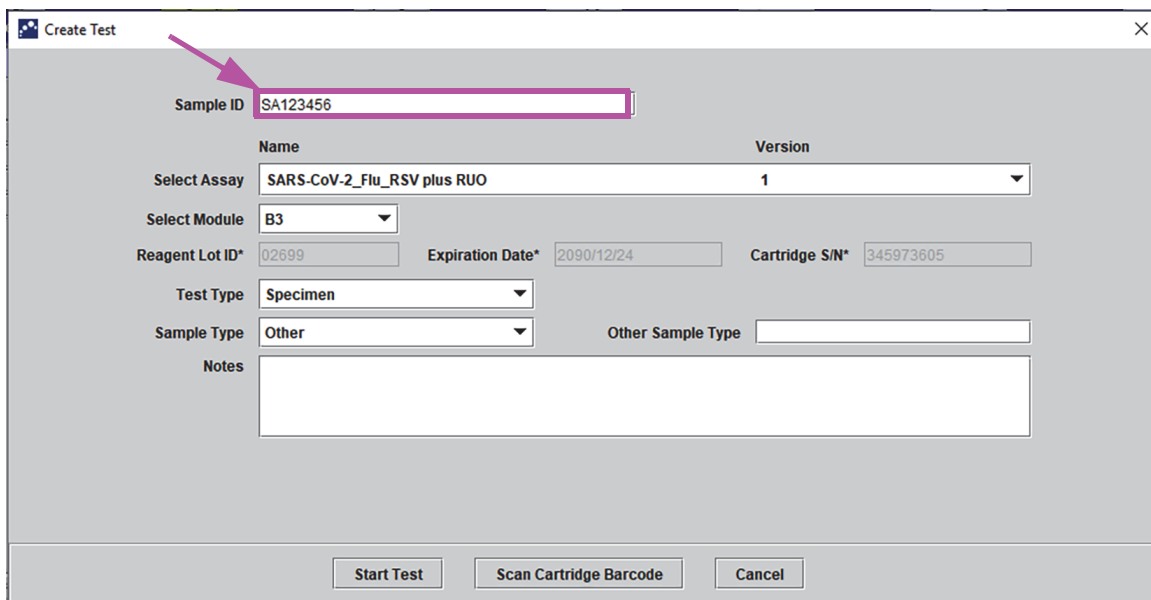

Figure 5-21. Create Test Dialog Box with the Sample ID Field Shown
3. Scan the cartridge barcode using the supplied barcode scanner. See Section 5.6. The Create Test dialog box appears as shown in Figure 5-21. Note that the software automatically fills the required information into the Create Test window.